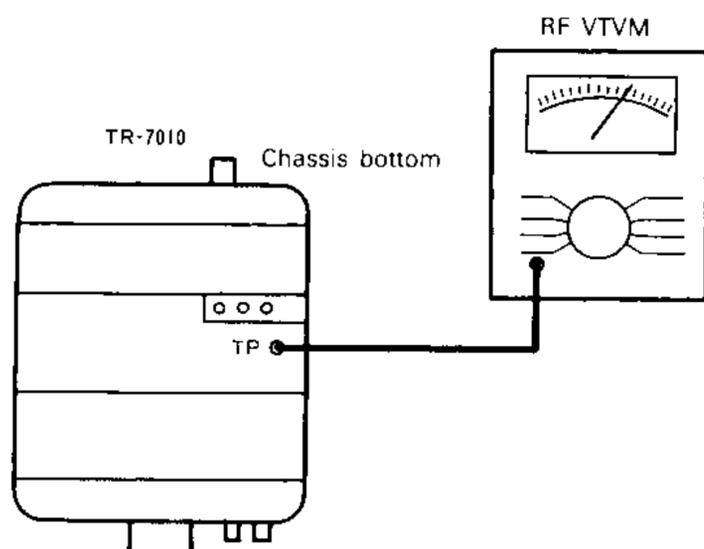
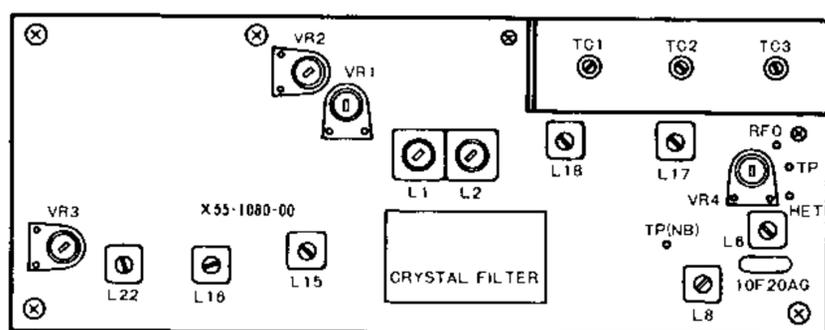

FIG. 14 RX, HET VOLTAGE SETTING
FIG. 15 RX UNIT
- (1) Disconnect all the measuring instruments. Set the channel indicator to "00" and the BAND switch to 144.2MHz.
- (2) Connect RF VTVM to the TP terminal on the RX unit (see Fig. 14 and Fig. 15).
- (3) Adjust VR4 on the RX unit until the voltage reaches 0.3V.
- Adjust VR2 on the RX unit (Fig. 15) until the S meter indicates the exact "0" position.
- Slowly decrease the input from SSG and obtain a maximum reading on AF VTVM by adjusting L1 → L2 → TC3 → L6 → L8 → L15 → L16 → L22 on the RX unit (Fig. 15). This adjustment should be repeated several times.